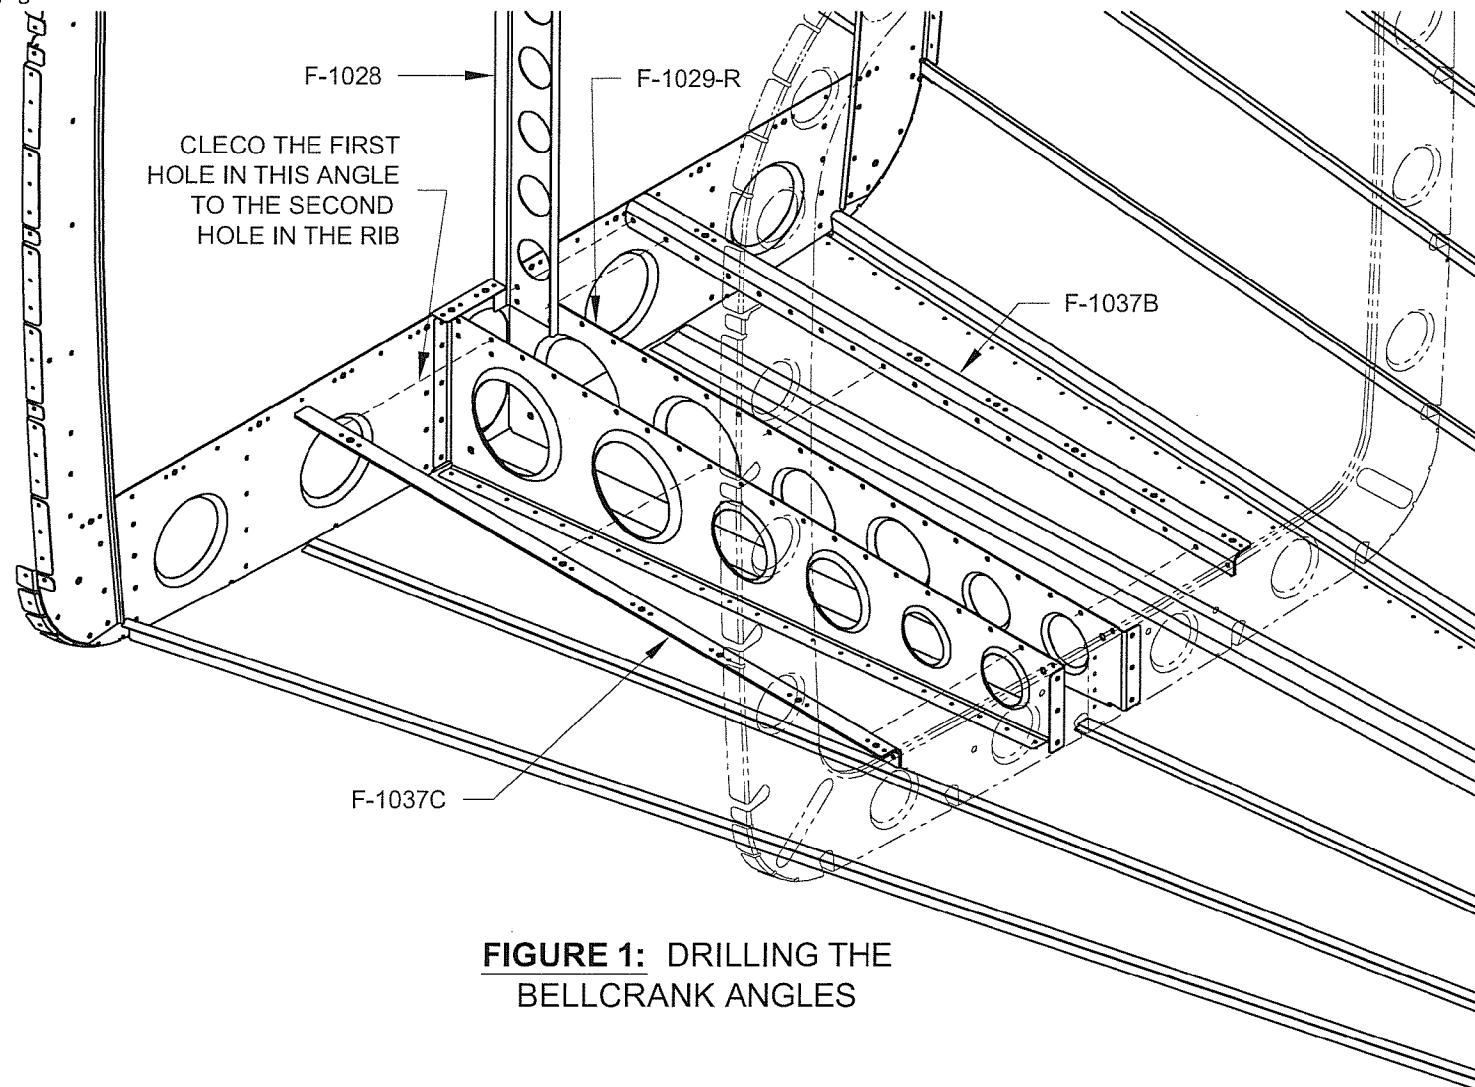

**FIGURE 2: F-1037
Step 3: Separate the F-1037 Bellcrank Rib Angle into the individual parts shown in Figure 2.
Step 4: Final-Drill the 3/32" nutplate attachment rivet holes in both the F-1037B & C Bellcrank Rib Angles using a #40 drill. Machine countersink these holes flush for 3/32" rivets on the side indicated in the blowup of Figure 2.